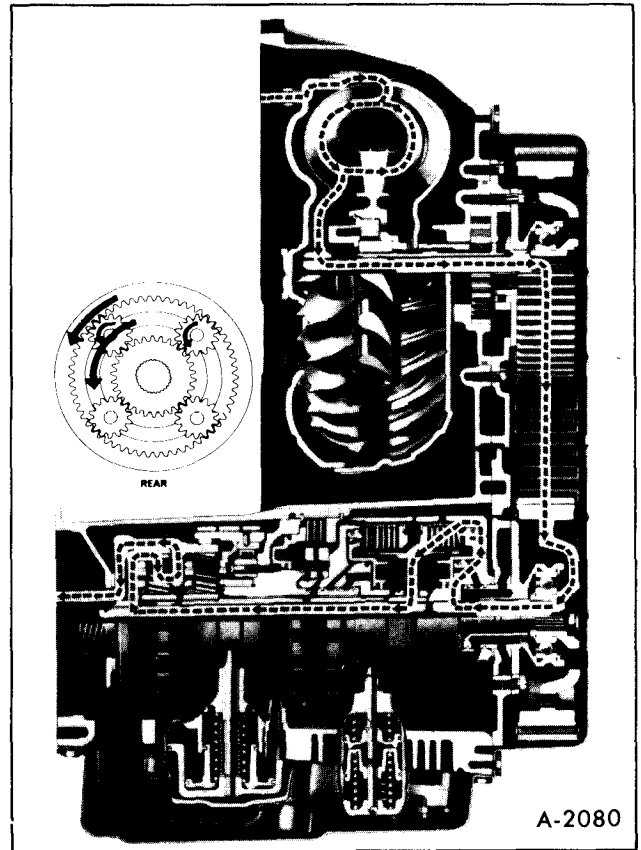

Figure 7-Drive-Second Gear (Power)
**DRIVE-SECOND SPEED****POWER FLOW (FIGURE 7)**